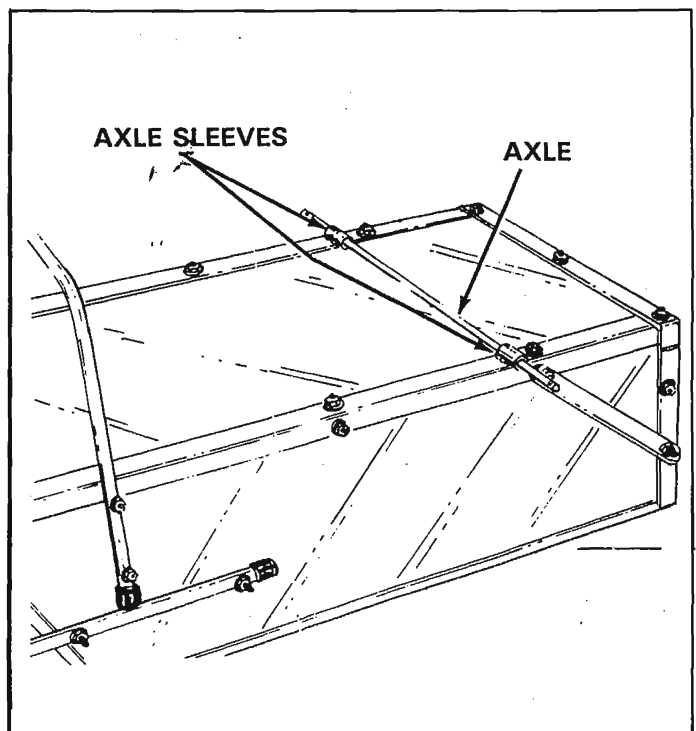

FIGURE 11
14. Place axle through axle sleeves as shown in figure 11 page 5. **Tighten all nuts and screws securely.**
19. Now lay the cart down, do that it is upside down, to assemble the wheels. See figure 11 and 12.